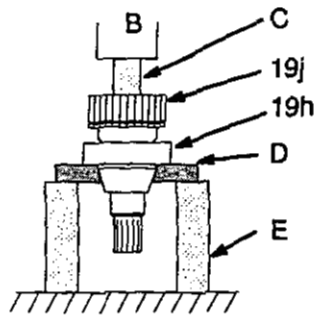

Fig. 12
4. **Using a hydraulic press**, place pieces of steel bar stock on the inner race of the large bearing (19h) and press the shaft through the hub and bearing. Then turn over the shaft and press out the small bearing (19f). See Fig. 12.